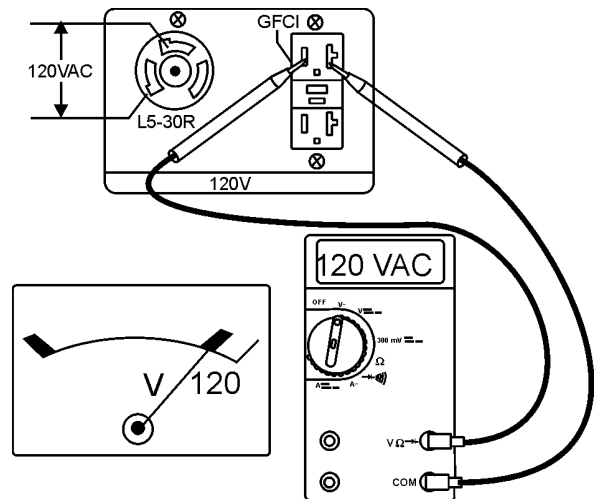

Figure 20. 120 V and GFCI Receptacles
- Read the **voltmeter** on the front panel of the generators (Figure 20) and verify that 120 VAC is present at the 120V twist-lock and GFCI duplex receptacles. For additional verification of voltage, an external voltmeter can be used to measure the output voltage as shown in Figure 20.